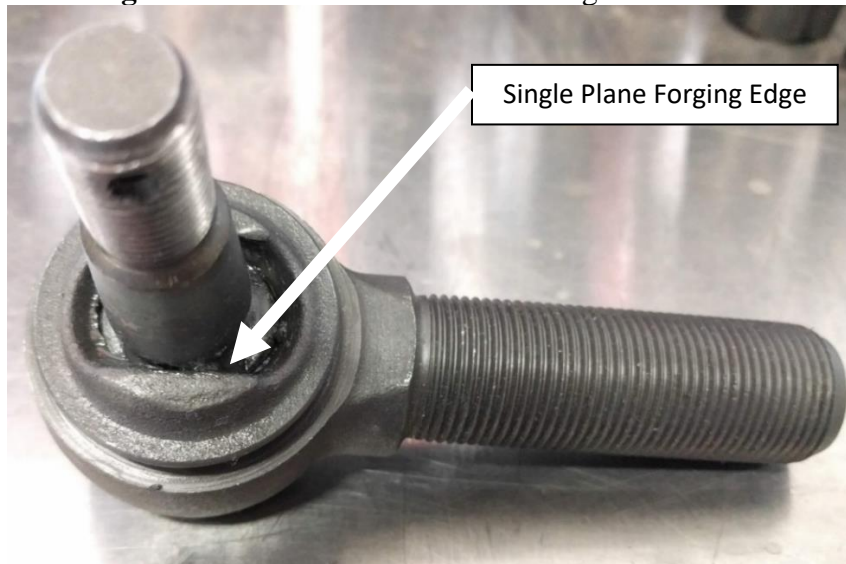
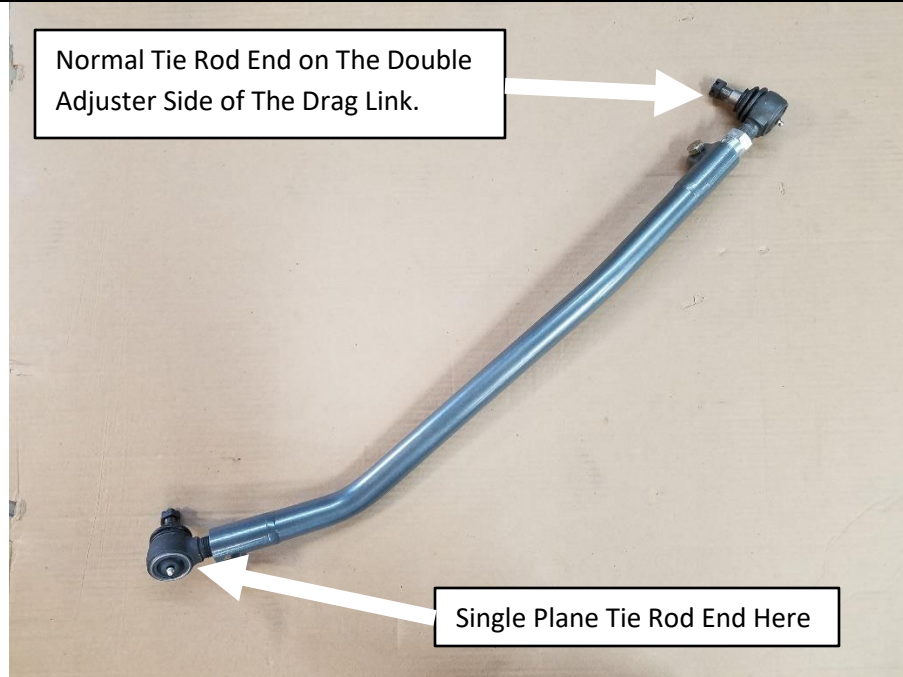

Figure 14. Single Plane Tie Rod End, Boot Removed, to be Installed at Tie Rod
Figure 16. Tie Rod End Locations
- Verify that the tie rod ends are installed on the correct sides of the drag link. Remove the boots and make sure the Single Plane tie rod end is at the end of the drag link that installs in the Tie Rod (non double-adjuster side). The regular tie rod end should be on the pitman arm side with the double adjuster. See **Figures 14 and 15** for the difference between the single plane tie rod end and the normal tie rod end. See **Figure 16** for their location on the drag link.